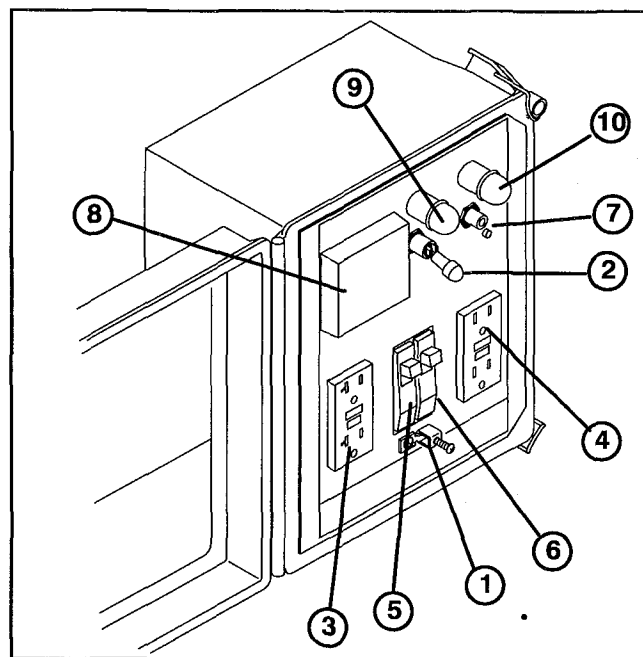

Figure 19
A grounding lug (Fig. 19) is provided on generator control panel for connecting generator to a grounding electrode conductor. Use a minimum of 10 gauge copper wire when connecting grounding lug to grounding electrode.
1. Switch control panel on-off switch to "OFF" position (Fig.19).
2. Loosen screw on control panel grounding lug (Fig.19).
6. Move generator ON/OFF switch to "ON" position (Fig.19).
- If amber reset indicator light (Fig.19) has come ON, remove all loads, move generator ON/OFF switch to "OFF" position and press the reset button before attempting to restart the generator.